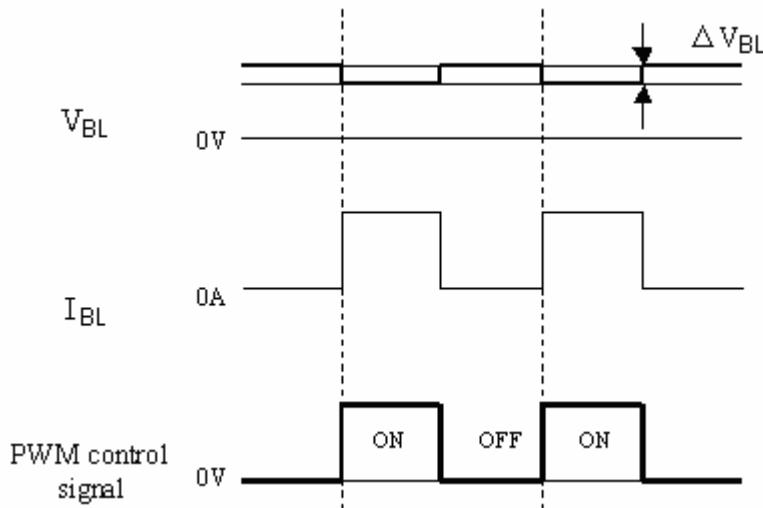

Fig.4 Brightness control voltage.
- c) Brightness control voltage is switched for "ON" and "OFF", as shown in Fig.4. Voltage difference generated by this switching,  $\Delta V_{BL}$ , may affect a sound output, etc. when the power supply is shared between the inverter and its surrounding circuit. So, separate the power supply of the inverter circuit with the one of its surrounding circuit.